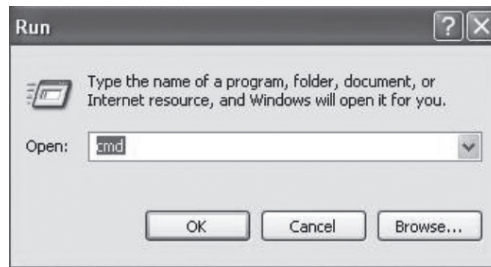

Figure 5-10 Run Window
4. Type cmd in the prompt Run window as Figure 5-10 and click OK.